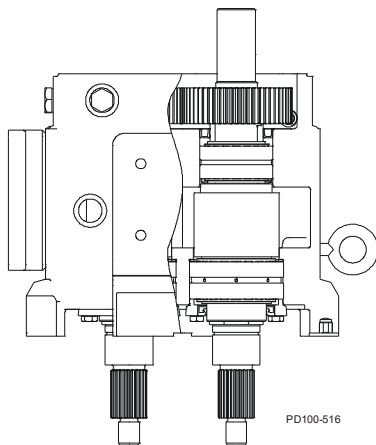

Figure 40 - Press Shafts from Gear Case
5. Place the gear case on an arbor press with the liquid end facing down. Protect the shaft ends with a wood or plastic block, and press the shafts out of the gear case (Figure 40).